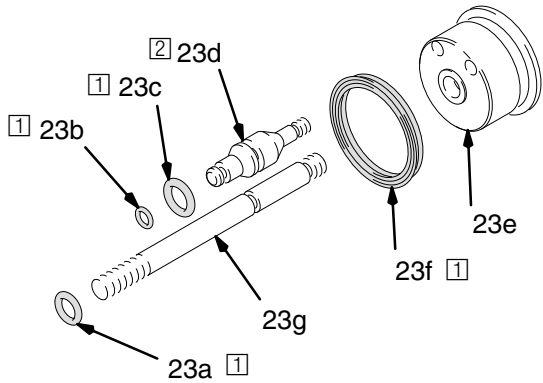
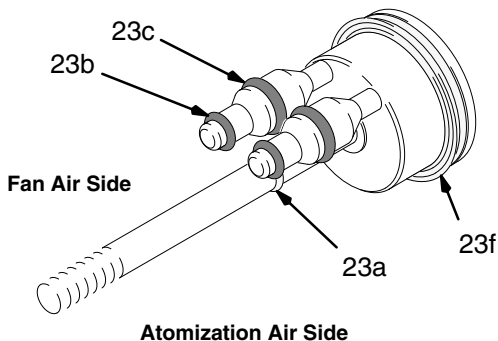

Fig. 26 03530
Fig. 27 03531
5. Inspect the o-rings (23a, 23b, 23c) and u-cup packing (23f) for damage. See Fig. 26. Refer to Fig. 27 to isolate any air leakage problems.